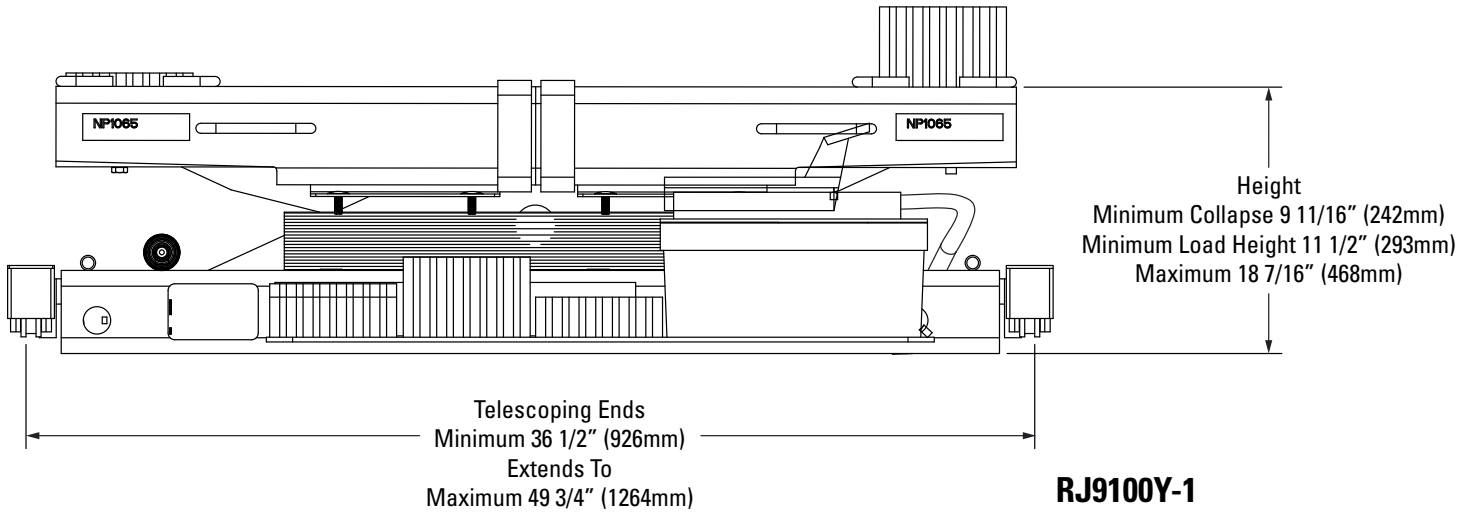

Fig. 3
- C. RJ9100Y-1: The rail engaging wheels shall be adjustable for an inside runway width of 36 1/2" (926 mm) minimum to a 49 3/4" (1264 mm) maximum Fig. 3.